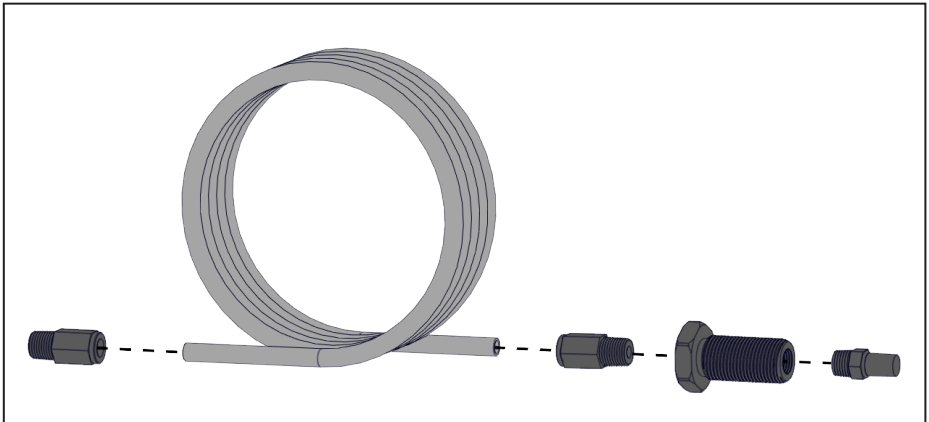

Figure 49 — Tubing Installation Remote Blowdown Muffler assembly
- Install the tube into the push-to-connect bulkhead fitting (Figure 49)